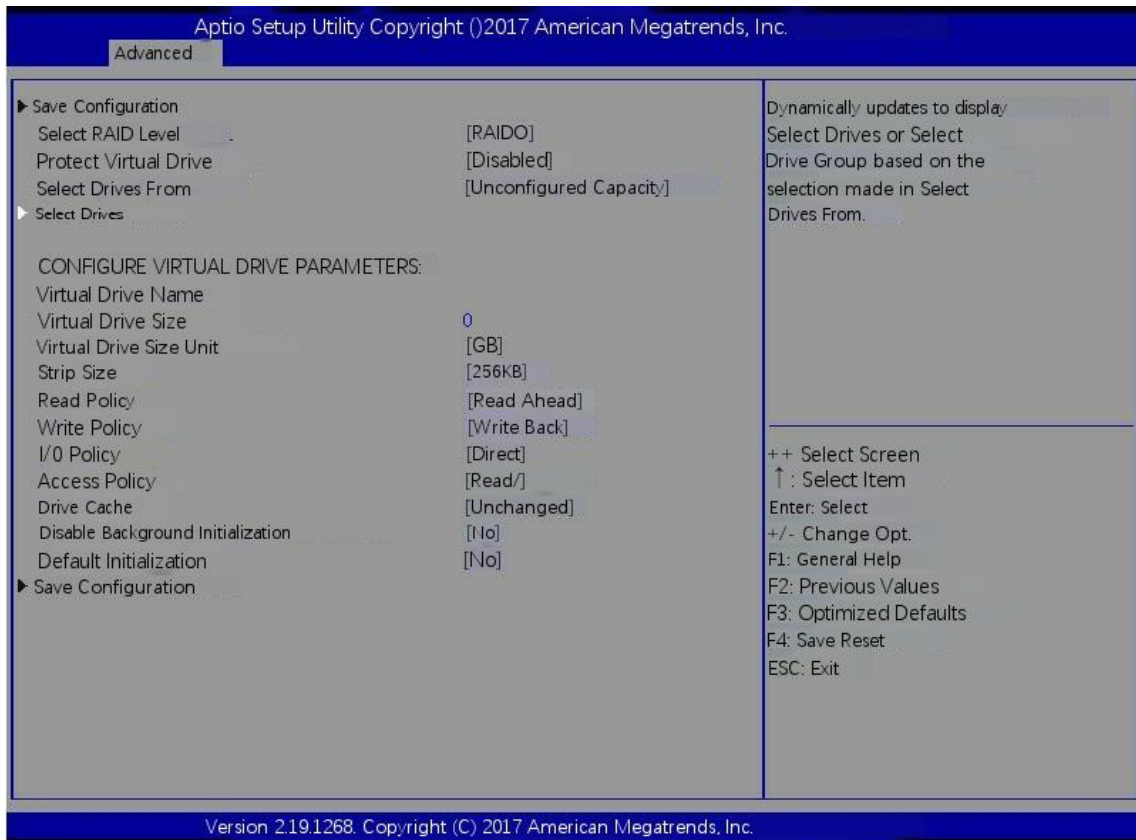

Figure 6-11
e) Enter the interface shown in Figure 6-11, select select drives and press enter.